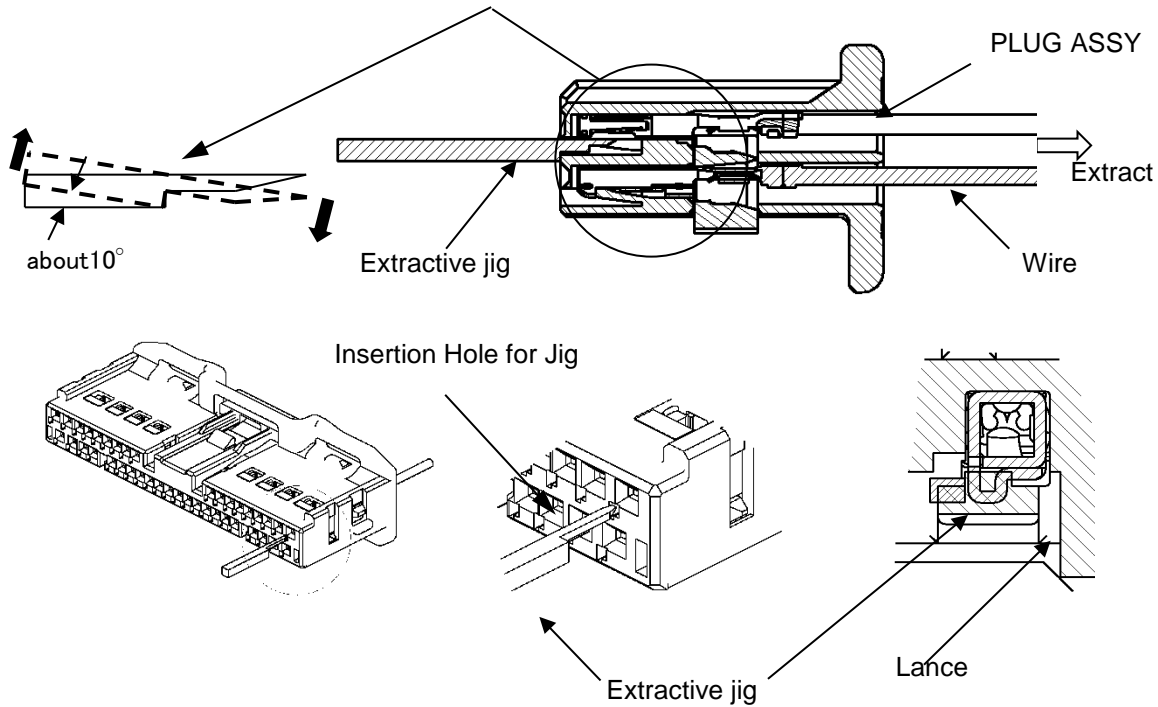

Fig.12
- (1) Confirm the retainer is in pre-assembled condition. When the retainer is in final lock condition, it must be changed to pre-assembled condition. See para.6.3. The female contact can not be extracted in final assembled condition.
- (2) In the case of 0.50 female contact, insert the special extractive jig into the proper hole to the end, remove the loaded contact from housing while pull the crimped wire. See Fig.12.
- (3) In the case of 0.50 male contact, insert the special extractive jig into the proper hole to the end, remove the loaded contact from housing while pull the crimped wire. See Fig.12.